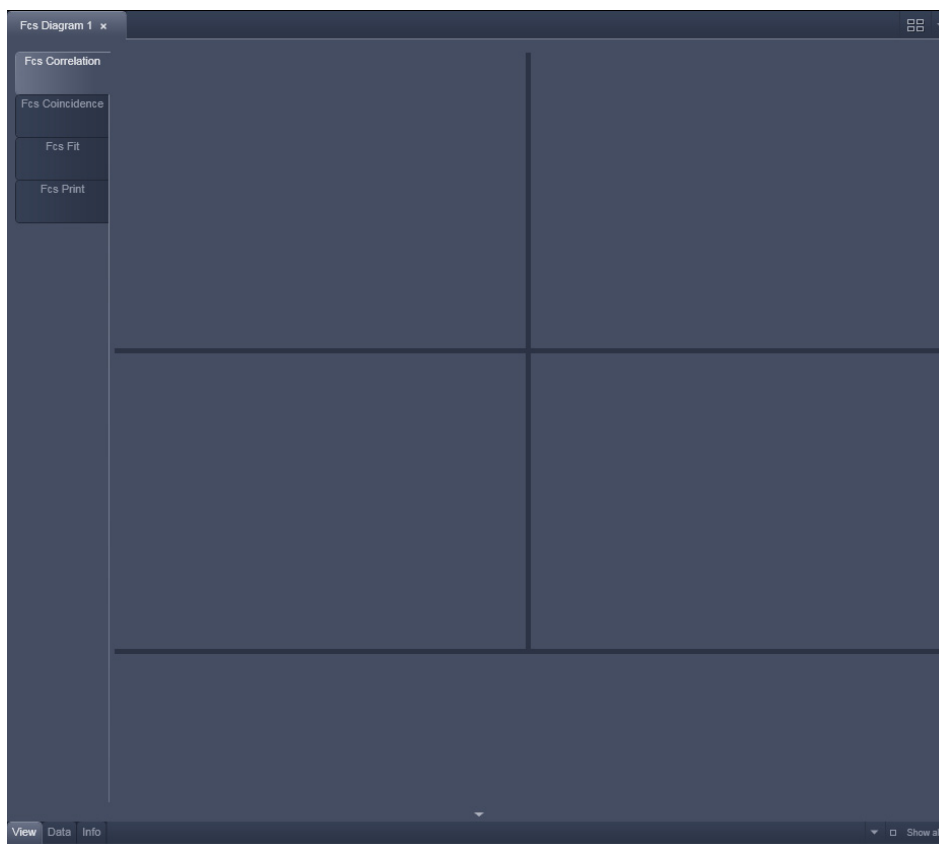

Fig. 82 Image Container with new FCS Diagram opened
- Click on the New Document button to open a new **FCS Diagram** in an **Image Container**. New diagrams per session will be numbered starting with 0 (Fig. 82).
- Click the **Close** button (cross symbol) in the tab to close the **FCS Diagram**. The **Close Image** window will appear and prompt you to acknowledge closing the diagram if anything on the data was altered. Press **Yes** to save any changes, **No** to discard the alterations and **Cancel** to return to the diagram see Fig. 82.